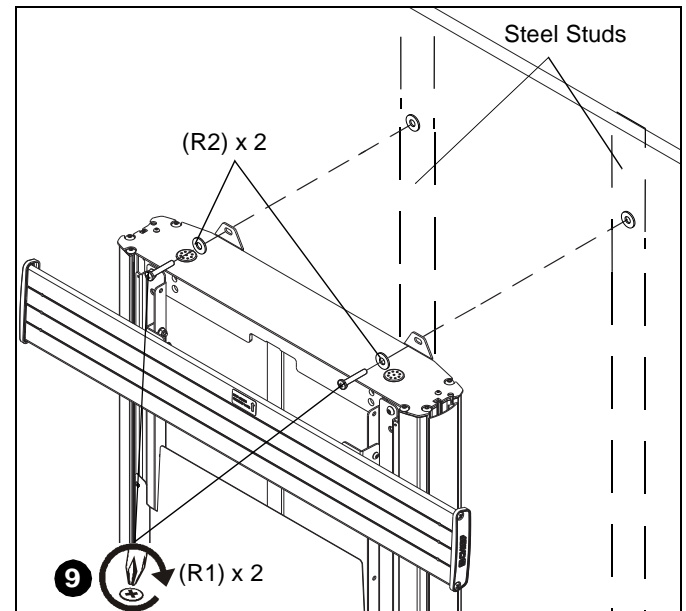

Figure 6
7. Place mount over anchors and align mounting holes on mount with holes in anchors. (See Figure 6)
9. Insert two 1/4-20 x 1-3/4" Phillips pan head screws (R1) through two 1/4" washers (R2), corresponding mounting holes on mount and into anchors (R3) and tighten until flush against mount. DO NOT overtighten! (See Figure 6)